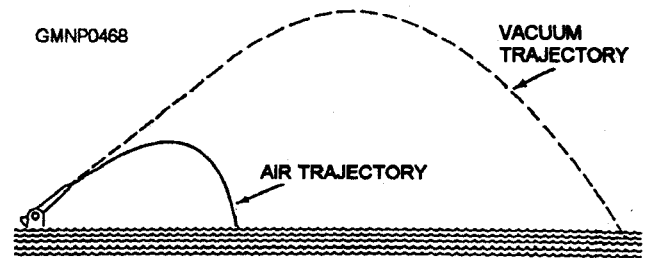

Figure 10-4.—Vacuum and air trajectories for the same elevation angle.
**AIR.**— When a projectile is traveling through the air, it takes a different path from the one it would follow in a vacuum. In a vacuum, with gravity as the only retarding factor, an angle of departure and an angle of fall of the projectile would be identical (fig. 10-4). The maximum ordinate would be in the exact center of the trajectory.